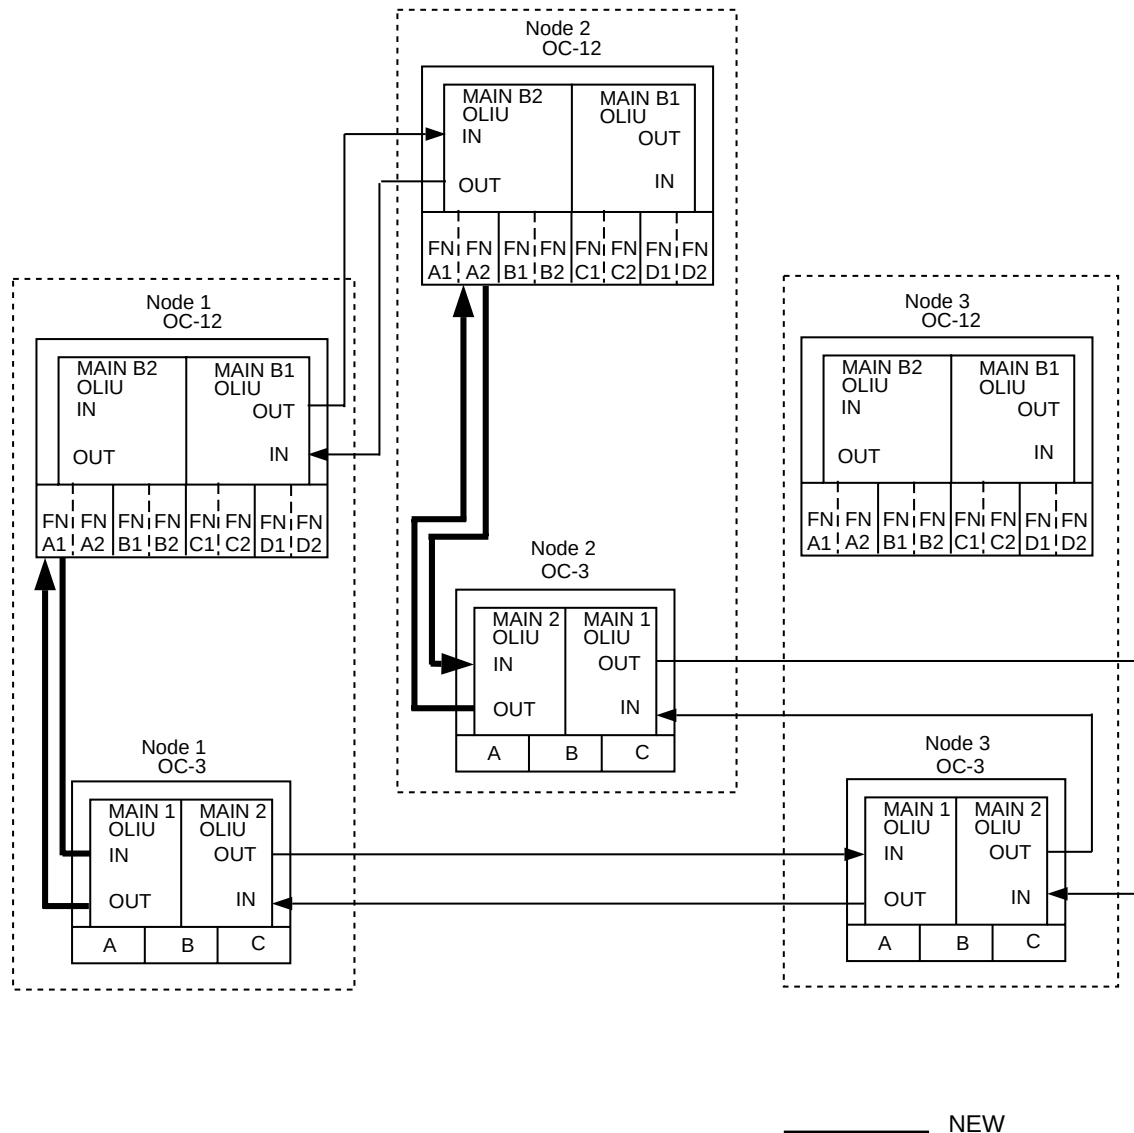

Figure 3. Example of OC-3 to OC-12 Ring Upgrade (3 of 7)
MAIN 1 slot to OC-12 **FN-()-1**. See Figure 3.
MAIN 2(P) slot to OC-12 **FN-()-2(P)**. See Figure 3.